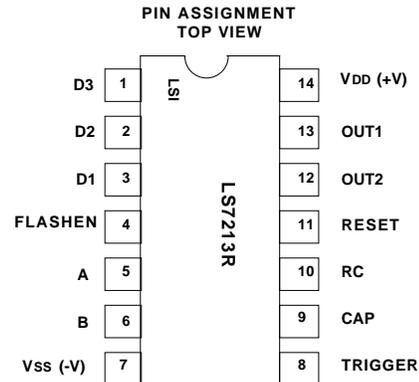

FIGURE 1
- LS7213R (DIP), LS7213R-S (SOIC) - See Figure 1